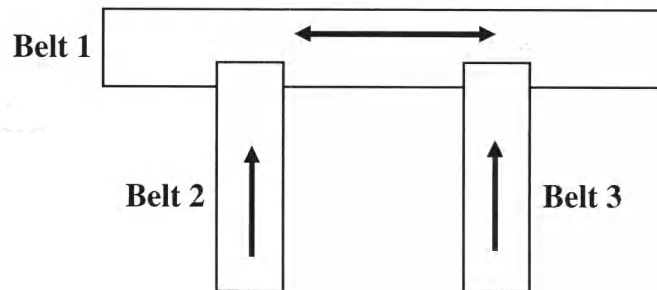

Figure-2
4. a. An industrial plant consists of three conveyor belts as shown in figure-2. Belt 1 can move in both the directions. Belt 2 and belt 3 are to carry materials to belt 1, thus the two belts move in one direction only. Belt 2 and belt 3 can run only after 30 seconds of belt 1 running. If belt 1 is stationary, belt 2 and belt 3 should stop automatically. If required belts 2 and 3 can be also be stopped separately. Each belt is driven by their separate motors. Draw the control circuit and power circuit diagram for such installation. Explain the control working mechanism of the system. [6]